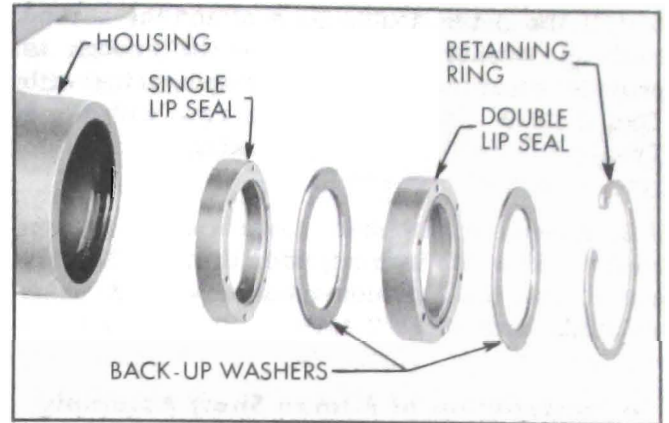
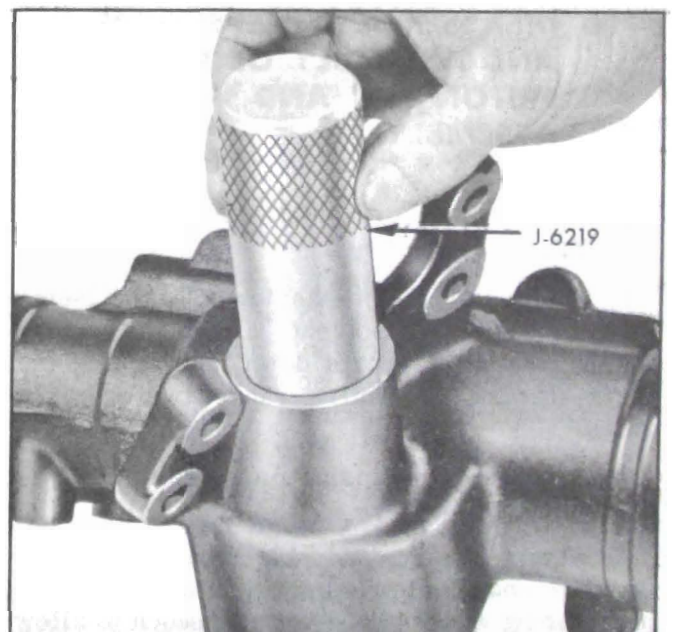

Figure 8-54—Pitman Shaft Seals
Figure 8-55—Installing Pitman Shaft Seals
2. Lubricate new pitman shaft seals in automatic transmission oil. Install the inner, single lip seal in bore first, then a back-up washer. See Figure 8-54. Using Tool J-6219, drive the seal and washer in far enough to provide clearance for the outer seal, back-up washer and retaining ring. See Figure 8-55. The inner seal must not bottom on the counter bore.